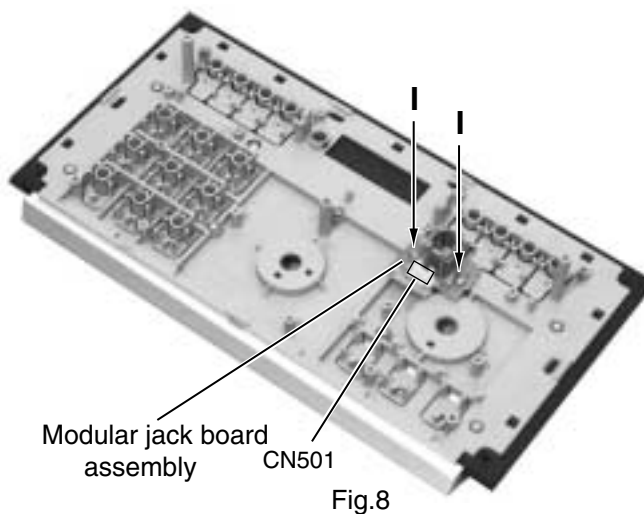

Fig.8
■ Removing the modular jack board assembly (See Fig.8)